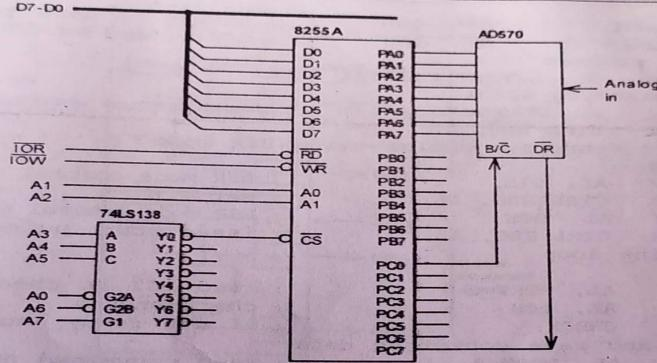

Figure 4.10 AD570 connected to 8255A.
Figure 4.10 shows AD570 connected to 8255A. The data bus lines of 8255A are connected to the low bus lines (D7-D0) of the system data bus. The decoder decodes I/O addresses 80H, 82H, 84H and 86H for the internal ports and the control register of the 8255A. A start pulse to the ADC is issued through PC0 line of the 8255A in BSR mode to Blank/Convert (B/C) input. The ADC sends out the status on Data Ready (DR) output, which is connected to the PC7 line of the 8255A. The converted data is read from Port-A. Listing 4.2 gives the 8086 ALP to acquire 100 data by polling.